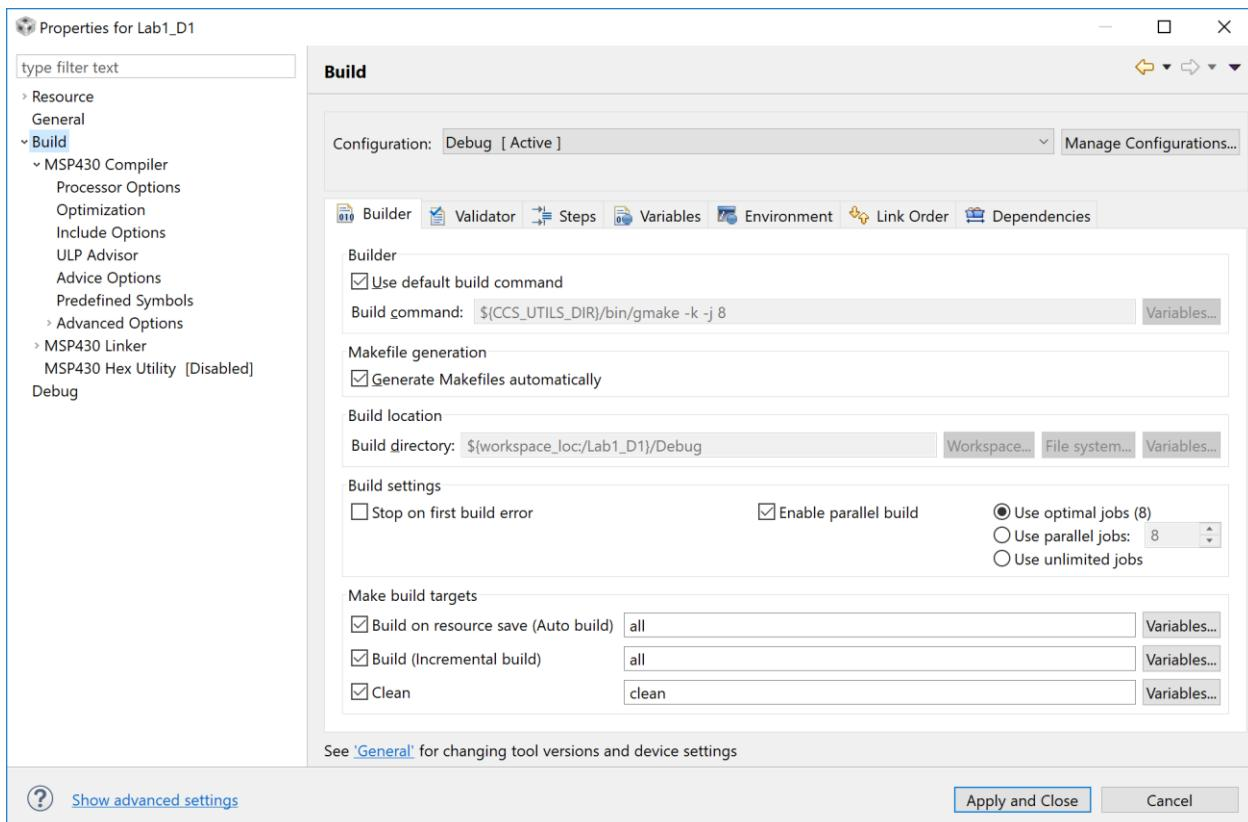

Figure 7. Project Properties
Step 1. Right-Click “Lab_D1” in the project explorer and select “Properties”. Select “Build” in the new window will pop up. Your window should be as shown in Figure 7.